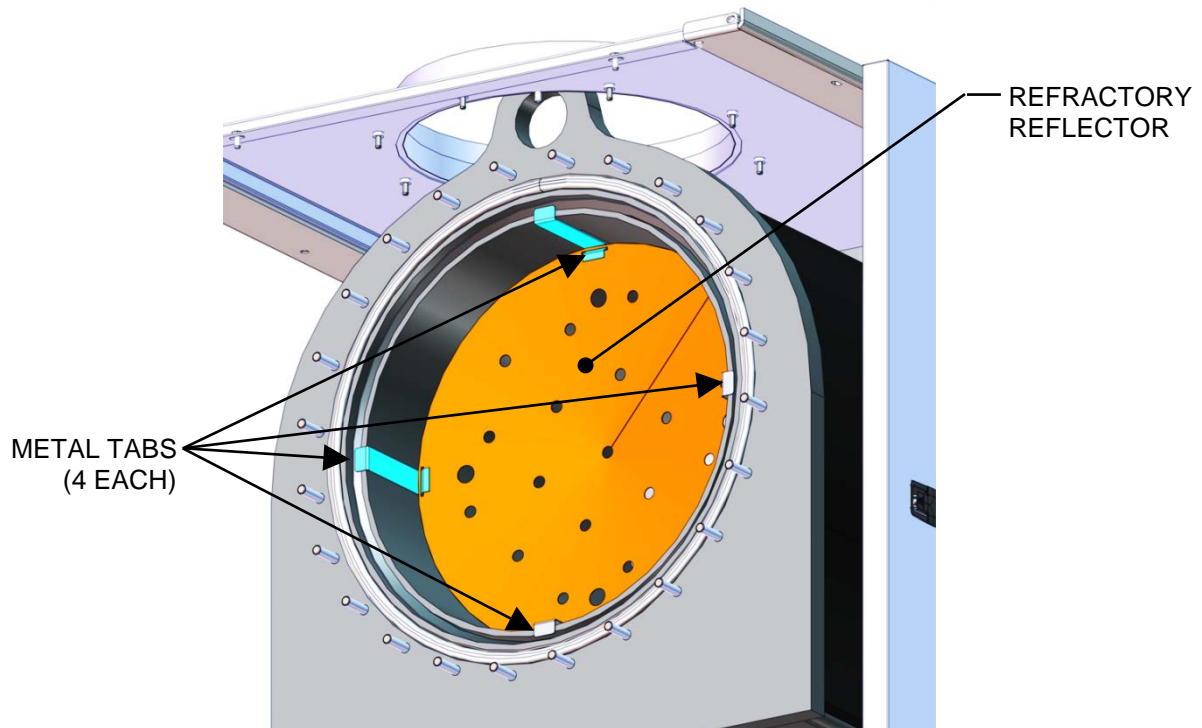

Figure 7-8. Partial Rear View – Rear Plate and Refractory Removed
11. Refer to Figure 7-8 and note the position of the rear refractory. Prior to refractory removal, mark as necessary using a permanent marker or tape.